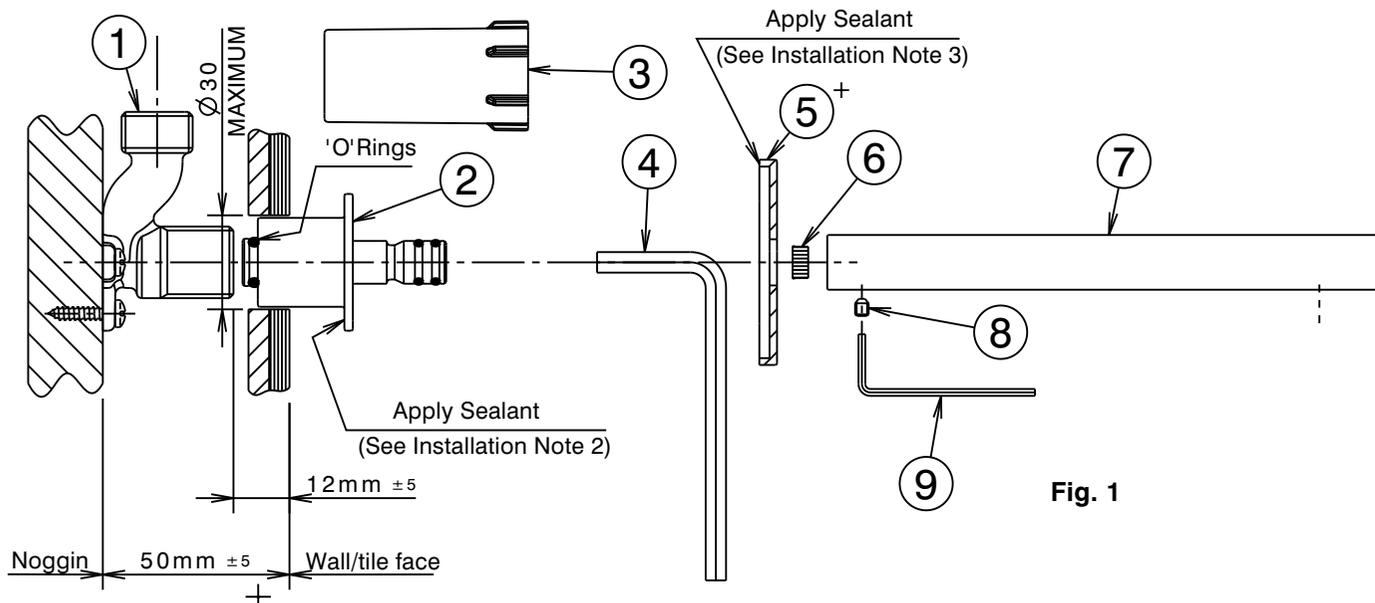

Fig. 1
- * **Lugged elbow (1) must be installed square to the finished wall/tile face.**
- * **In- wall depth 50mm±5 (Fig.1).**
- * **Hole size 30mm dia MAX (Fig.1)**
- * **Rough- in cap (3) is provided to assist the tiler.**
- * **Due to the special in- wall requirements of this tapware, a special lugged elbow (1) is supplied and MUST be used for new installations.**
- 2) When completing the installation, remove & discard cap (3). Apply a bead of sealant to the back face of retainer (2) (See Fig.1). Screw retainer (2) onto G1/2B thread of lugged elbow (1) by hand up to wall/tile face, taking care that 'O'Rings are not damaged as they enter bore of lugged elbow (1). Tighten retainer using 6mm allen key (4), so that sealant on retainer is compressed to provide a watertight joint & the retainer has bottomed against the wall/tile face.